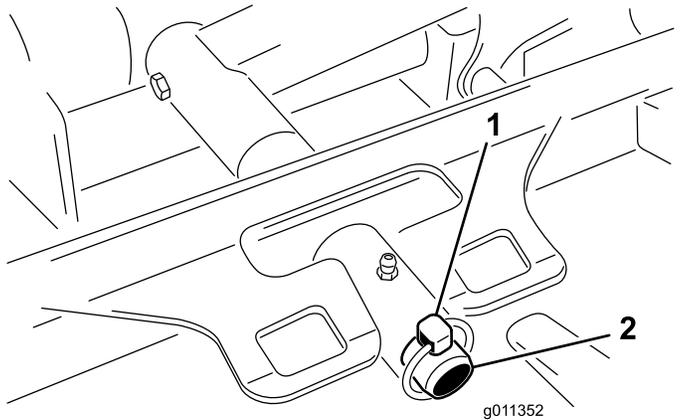

Figure 99
3. Remove the lynch pin (for Groundsmaster 4500 machines) or retaining nut (for Groundsmaster 4700 machines) securing the deck-carrier frame to the lift-arm pivot pin (Figure 99).
2. Slide the deck carrier frame onto the lift-arm-pivot pin (Figure 99). Secure the deck to the pin with the lynch pin (for Groundsmaster 4500 machines) or retaining nut (for Groundsmaster 4700 machines).